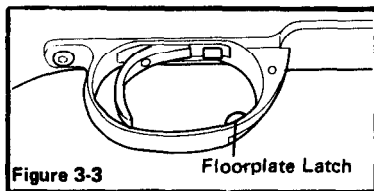

Figure 3-3
- (2) Remove the bolt assembly (see instructions in para 2-8).
- (3) Push the floorplate latch to release the floorplate (see Figure 3-3).